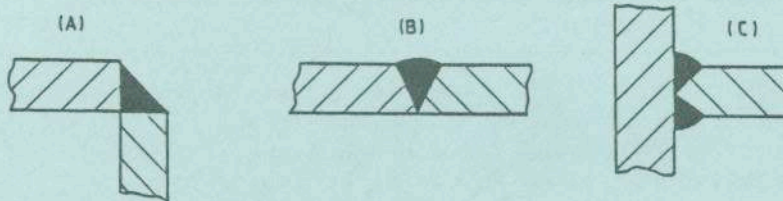

FIG. 6 FOR 6
- (c) State the type and illustrate the symbol for each of the weld joints shown in Fig. 6. Answer to be presented in tabular form as shown below.